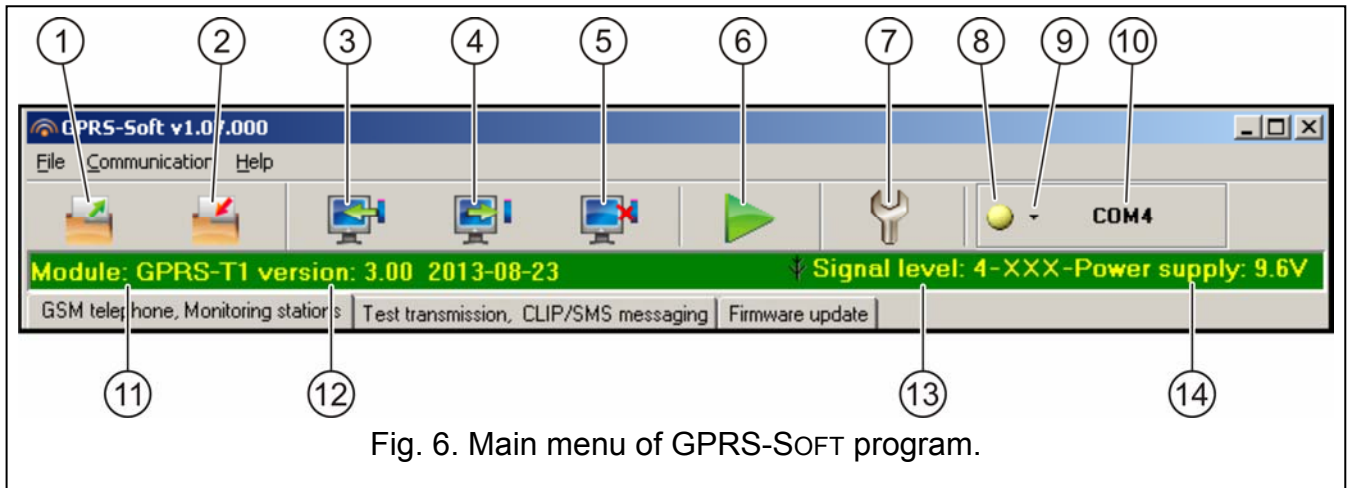

Fig. 6. Main menu of GPRS-SOFT program.
The serial COM port of the computer must be connected with the RS-232 (TTL) port on the converter electronics board. The cables for making this connection are available as a set designated DB9FC/RJ-KPL. Indicate in the GPRS-SOFT program the computer COM port to be used for communication with the converter. To do so, click on the “Configuration” button (see: Fig. 6 and explanations for the figure) and, in the window that will open, select one of the available computer COM ports. After activation of the selected COM port, the program will establish communication with the converter.
2. Click on the “Configuration” button (see: Fig. 6 and explanations for the figure) and, in the window that will open, enter the number of TCP port selected for communication with the converter. The number will have to be included in the body of SMS message which will be sent to the converter GSM telephone number to initialize communication.
3. Click on the  button (see Fig. 6). In the menu that will open, select “TCP/IP” to activate the server.
Explanations for Figure 6: